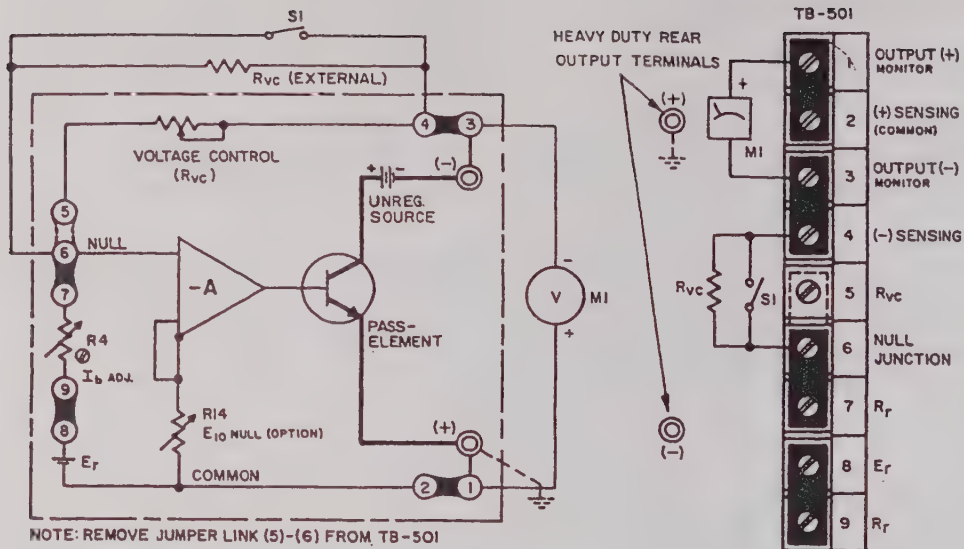

FIG. 3-4 CONNECTIONS FOR PRECISION PROGRAMMING RATIO ADJUSTMENT
3-16 PROCEDURE. PRECISION PROGRAMMING RATIO ADJUSTMENT (Refer to FIG. 3-4)
- Connect calibration set-up as shown in FIG. 3-4 and connect the power supply to the AC power line.